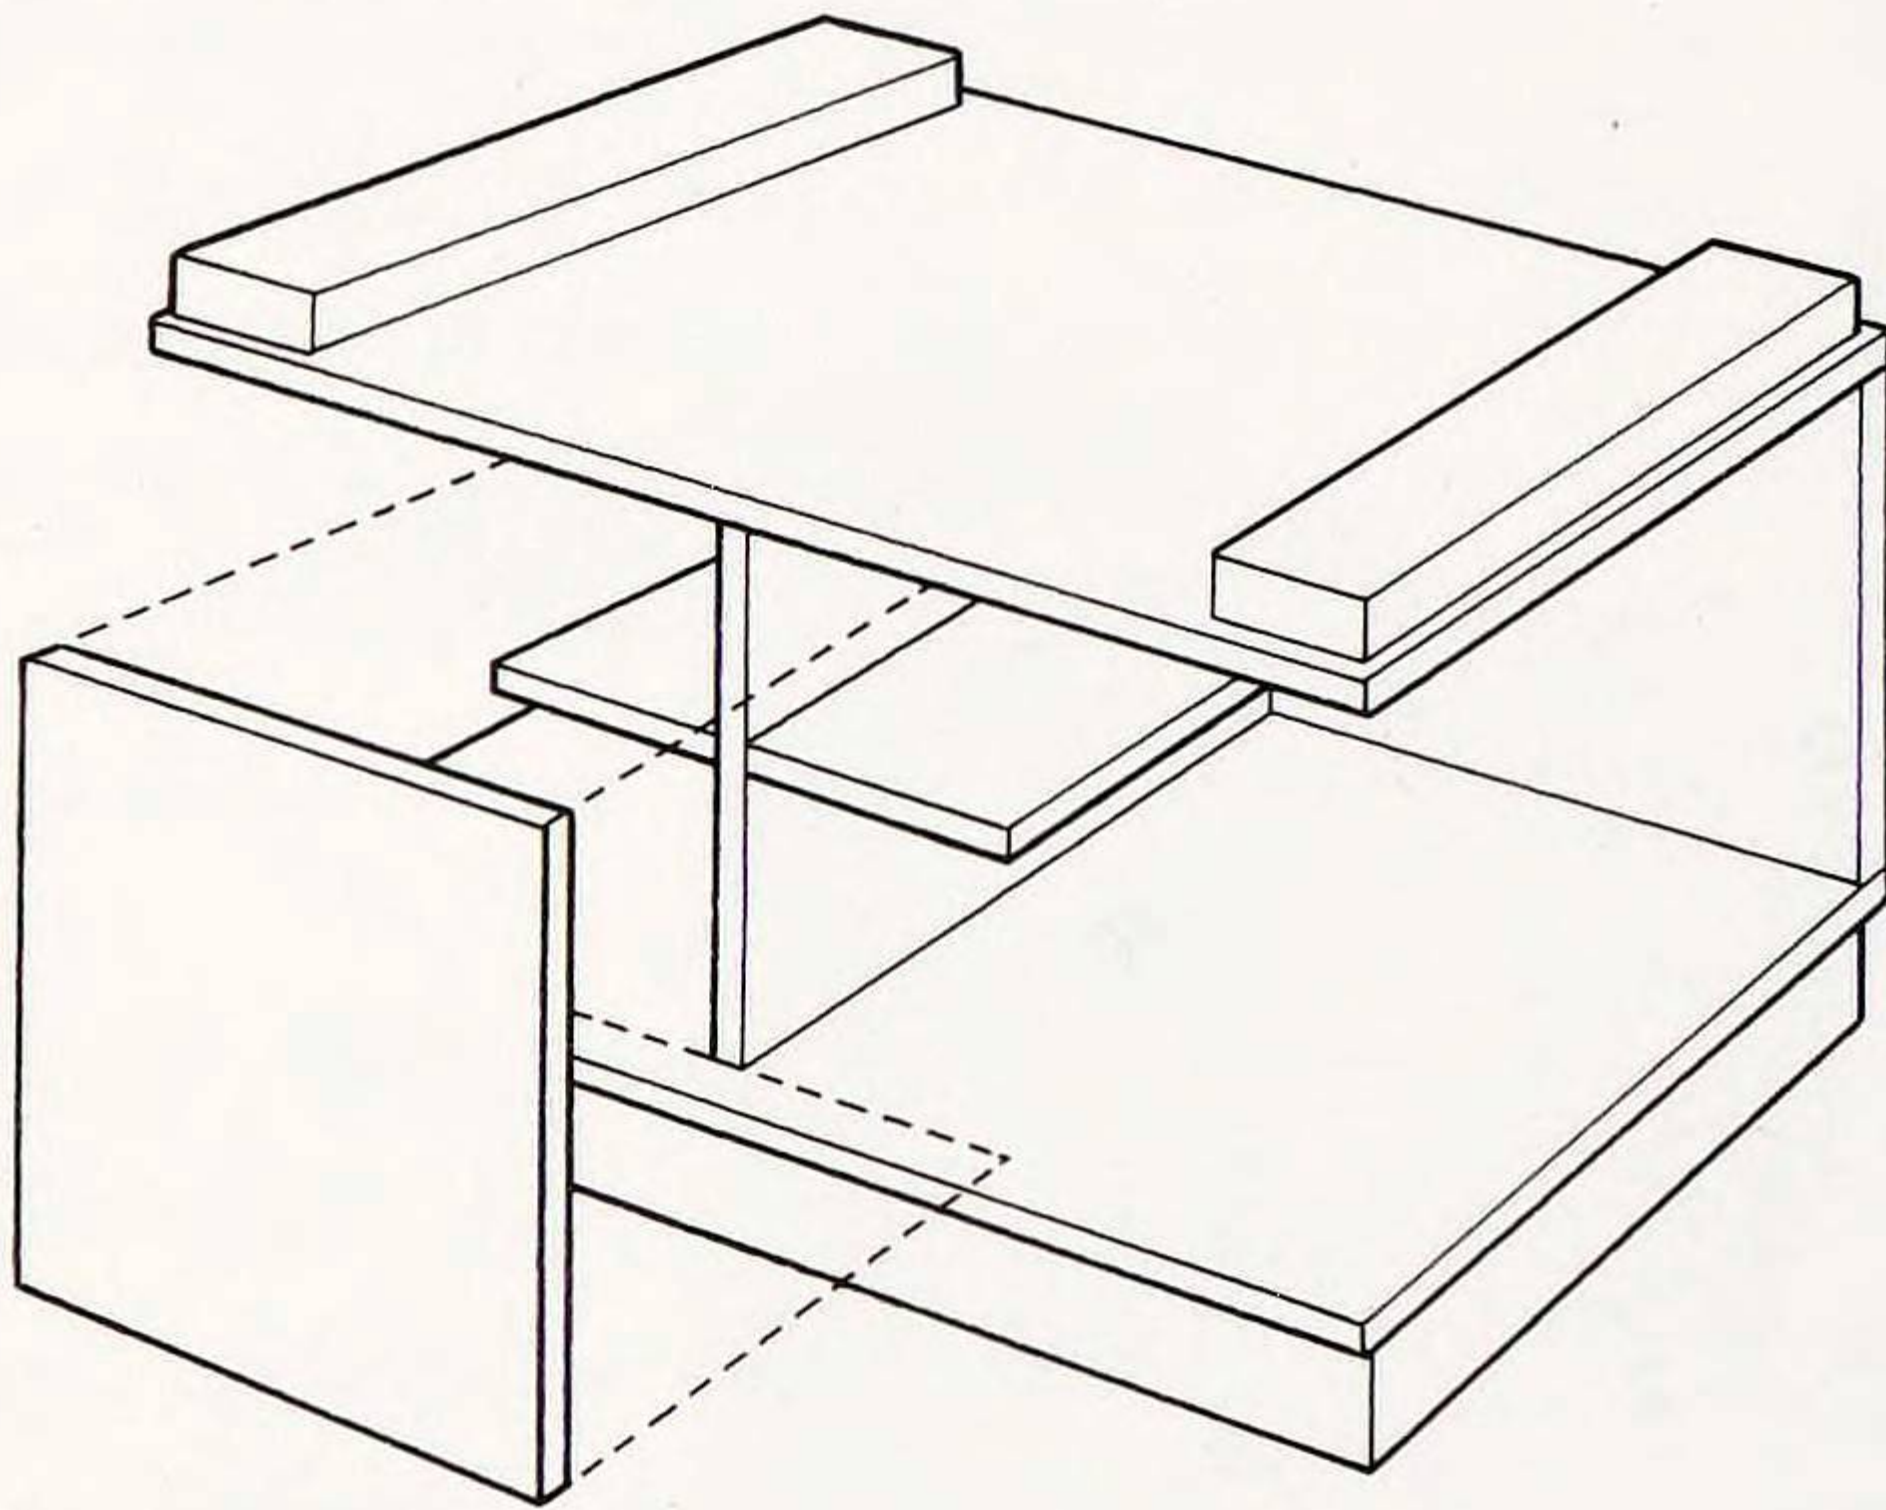

Fig. 4 Fitting the shelves and the centre front panel
4. If you would like to store your videos by using the side-opening method, fit the centre front panel and the shelves in position (Fig. 4).